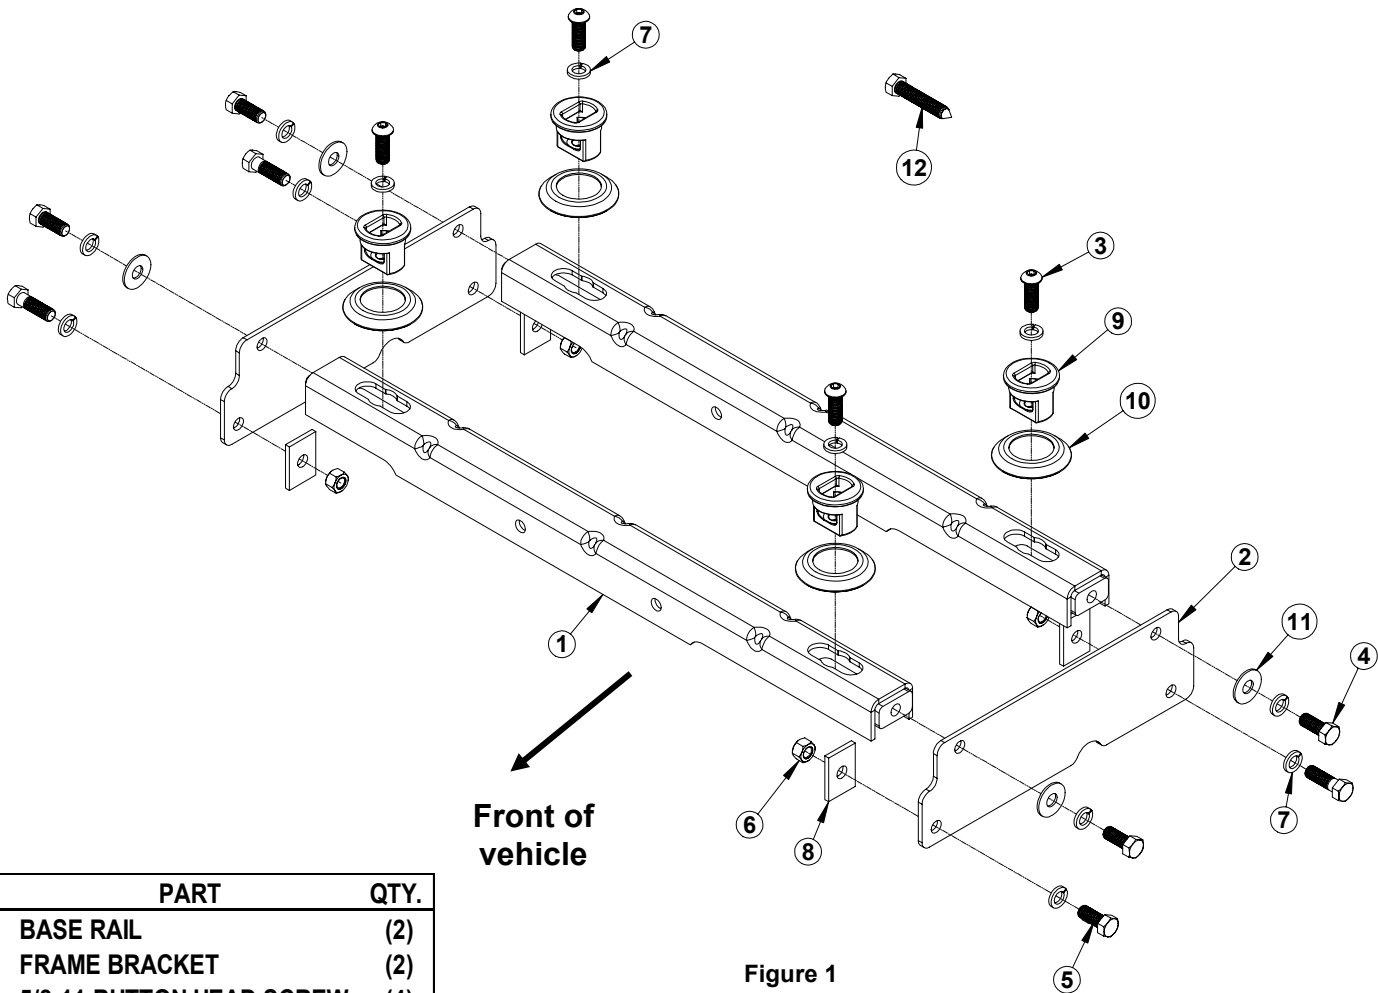

Figure 1
1. The following instructions should be used to mount the 5th wheel. Care and attention to detail will ensure a quick quality installation. Check parts against parts list to become familiar with parts in kit. (Figure 1)